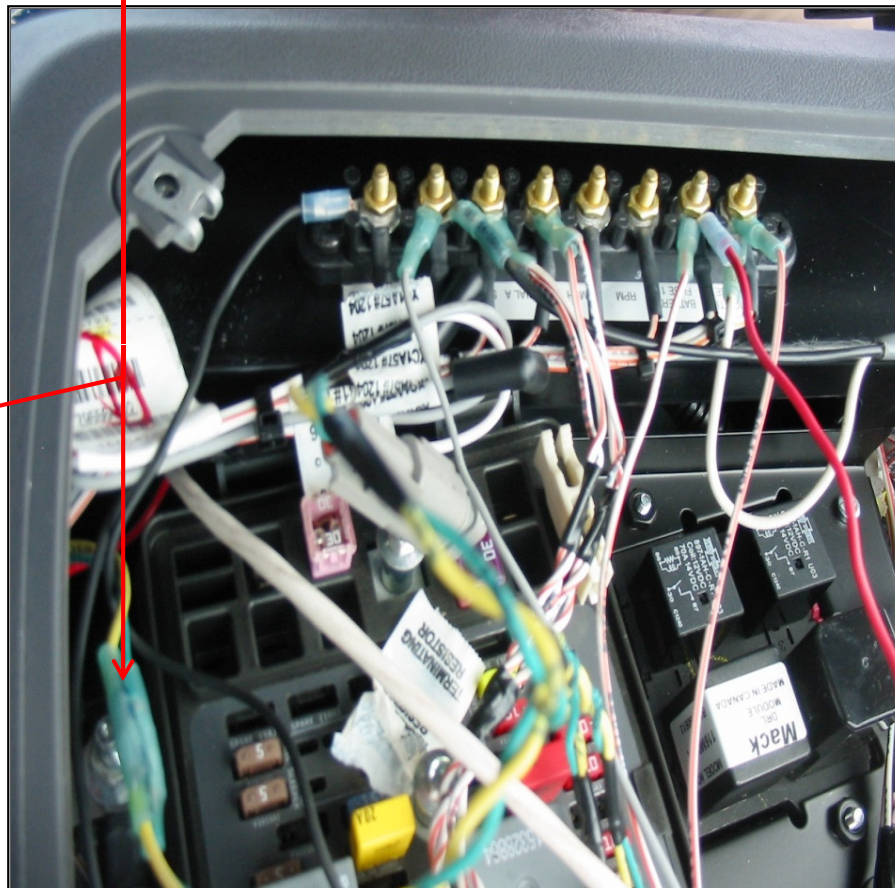

Figure 2
2. Each threaded lug in the fuse relay panel is clearly marked i.e. power, ground, ignition and J1587. Connect each wire to its corresponding threaded lug. Refer to “Figure 2”.
4. To install the “**DTY20682, J1939 “Y” cable**” at terminating resistor; identify wires (1) green, (1) yellow and tagged J1939.